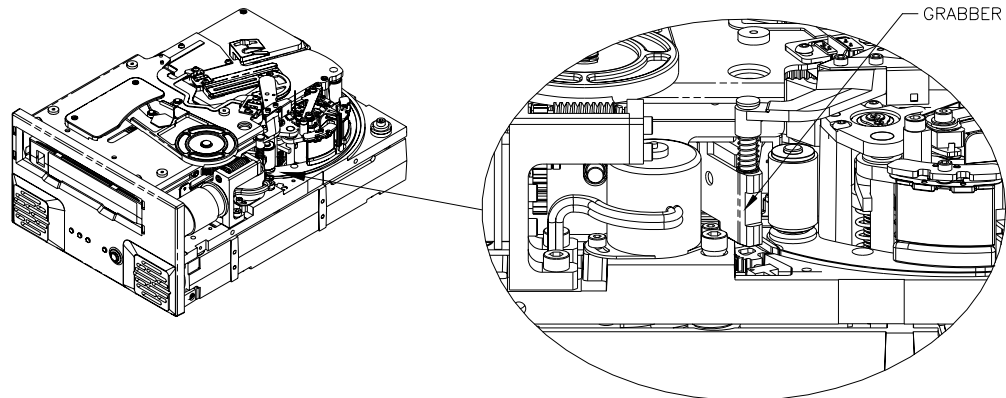

Figure 21. Diagram of underside of Viper 200 showing tape grabber near cartridge
9. Carefully push the grabber in toward the cartridge, as shown in Figure 21.